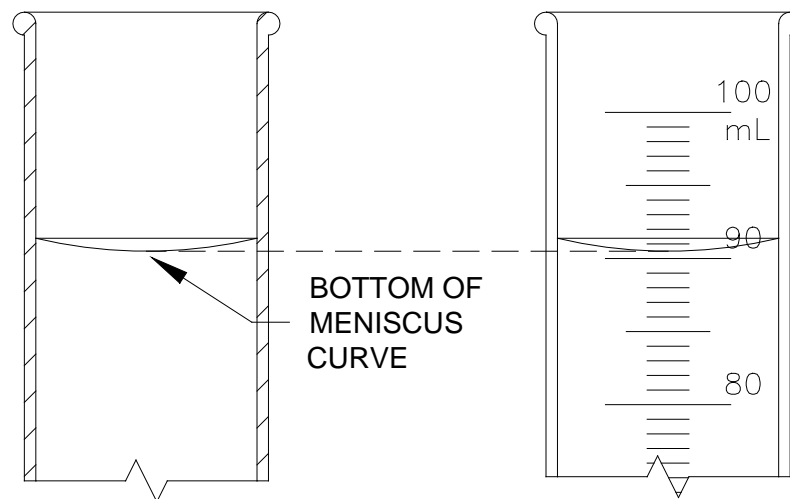

Figure 2. Meniscus Curve.
- Surface tension causes the fluid to curve into a meniscus (See Figure 2). Measure the volume at the bottom of the meniscus curve as shown.